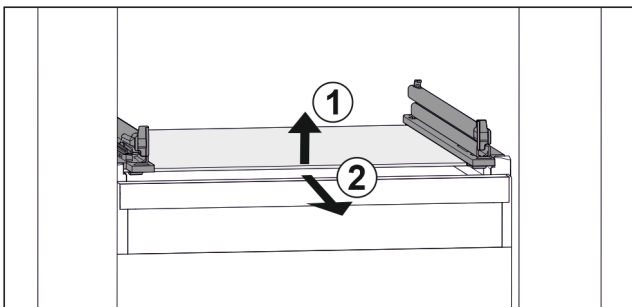

Fig. 166 Example illustration of glass shelf
- ▶ Lift glass shelf at the front. *Fig. 166 (1)*
- ▶ Take out glass shelf to the front. *Fig. 166 (2)*